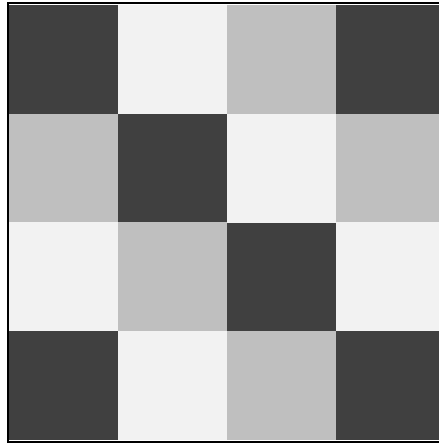

Figure 5-2. Display Test Pattern
2. Press  CAL. The display will show a dark test pattern, see Figure 5-2